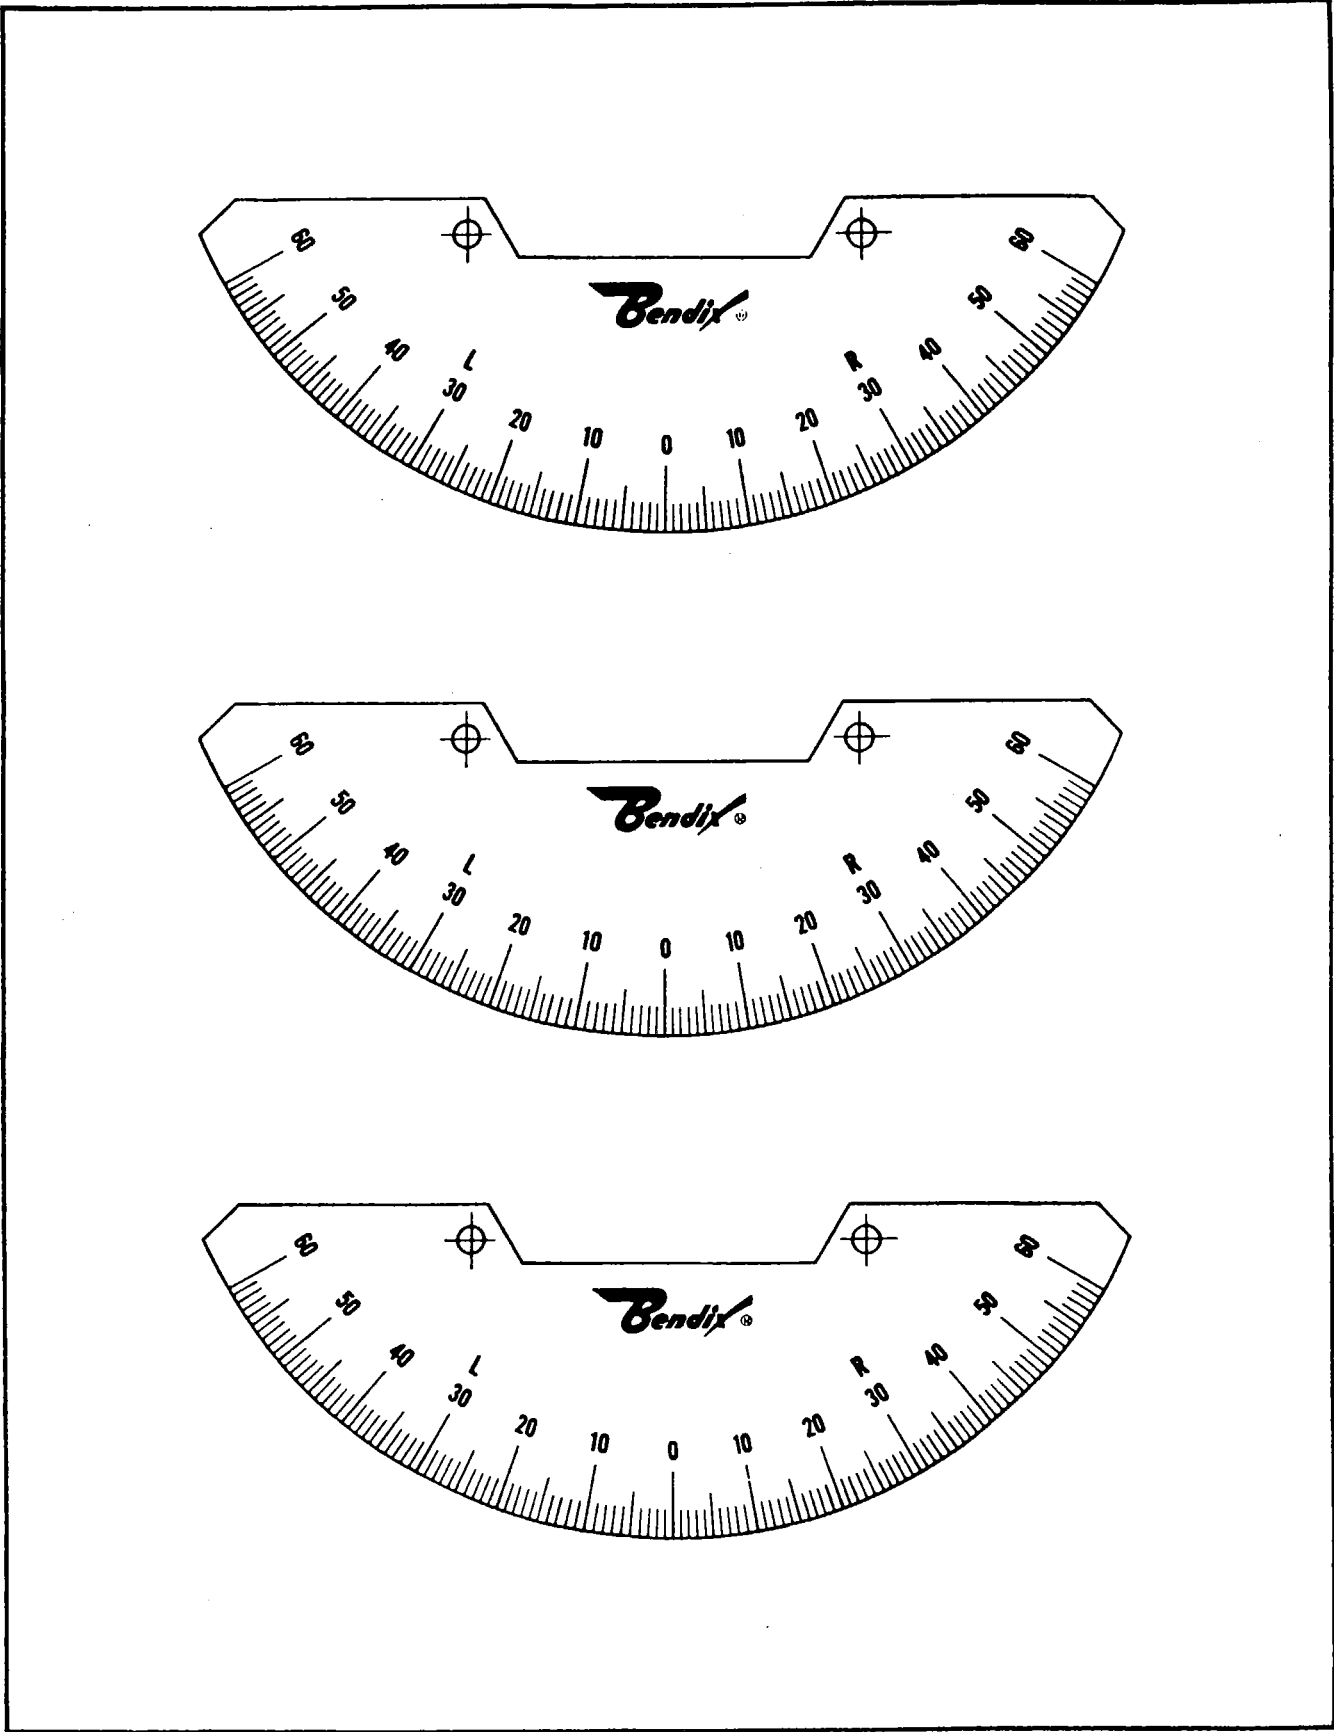

Figure 11-12. Templates For Timing Bendix Magnetos
1. Cut a paper template from figure 11-12.